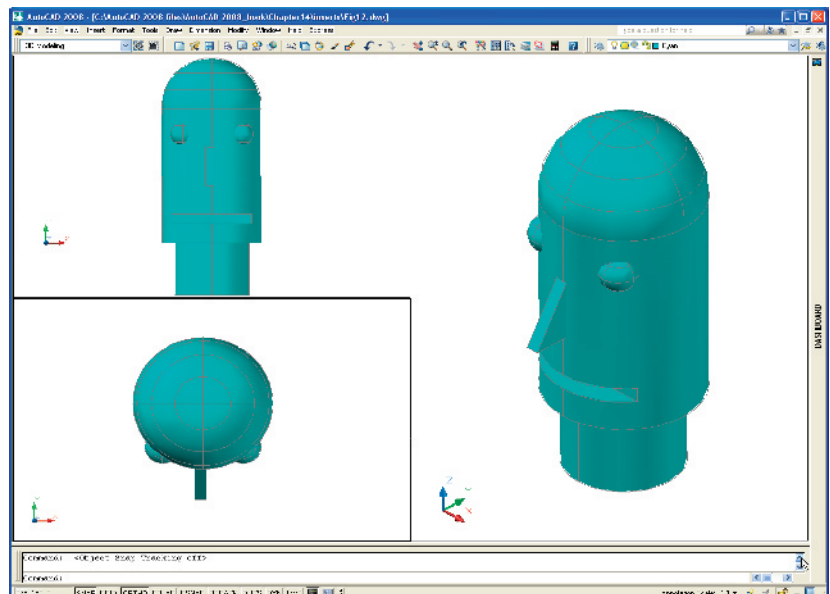

Fig. 14.12 Exercise 1
1. Using the **Cylinder**, **Box**, **Sphere**, **Wedge** and **Fillet** tools, together with the **Union** and **Subtract** tools and working to any sizes thought suitable, construct the 'head' as shown in the **Three: Right** viewport in Fig. 14.12.